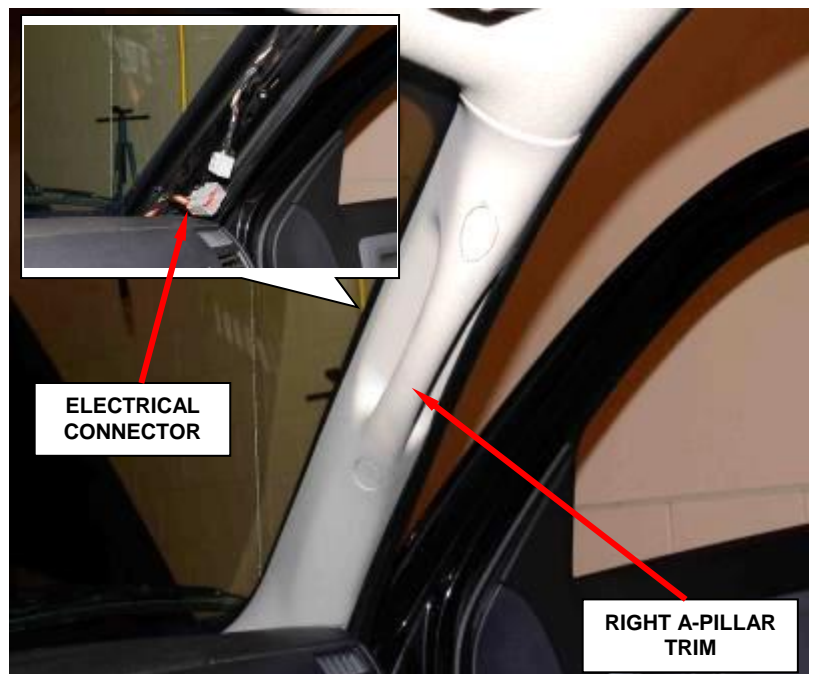

Figure 74 – A-Pillar Trim (Right Side Shown)
28. Remove the right and left side A-pillar trim (Figure 74).
29. Disconnect the right side A-pillar electrical connector (Figure 74).